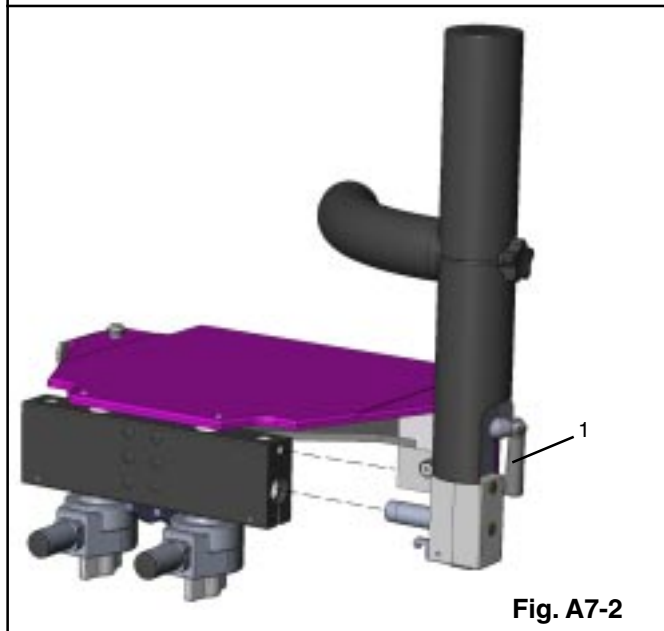

Fig. A7-2
Attach the Lateral Femoral Nailing Accessory as shown in Fig. A7-2 holding the accessory vertical and aligning the guide pin (2) with the guide pin location hole (1).